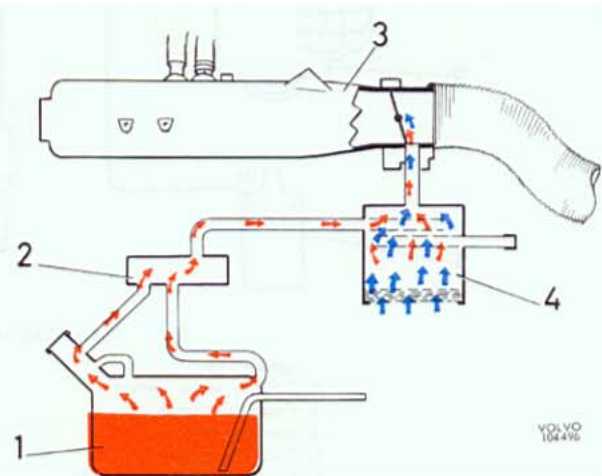

Fig. 2-87. Gas evaporative control system, principle
particularly during warm weather, are conveyed to the expansion container (2, Fig. 2-87) and from there to the venting filter (4) where they are mixed with the active carbon.